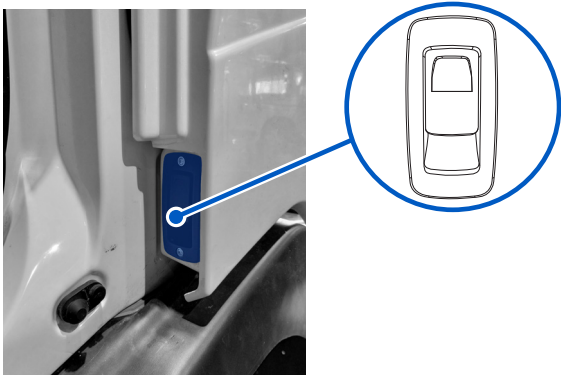

Figure 21 - Accessory compartment access panel handle
- 1. Open the driver's door and locate the black door handle at the bottom of the access panel (**Figure 21**).